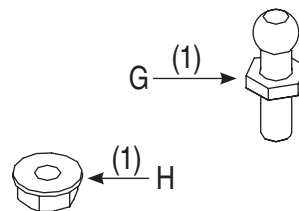
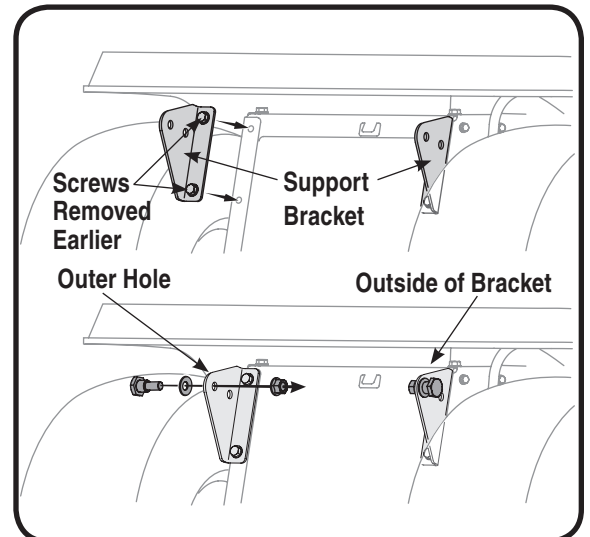
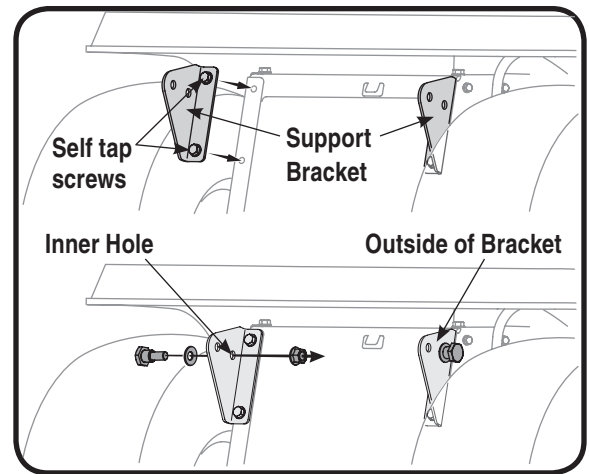

Figure 4
Figure 8
Figure 13
2. Place the right hand grass catcher support bracket (F1 from Figure 4), in position, with the wide end on top and the narrow end pointing down as shown in Figure 8.
3. Secure the support bracket to the tractor frame with two self-tapping screws earlier removed. Refer to Figure 8. Repeat on the other side using part F2 from Figure 4.
4. Insert a shoulder bolt (C in Figure 4) through a bell washer, (B in Figure 4) and insert the bolt from the outside of the bracket through the outer hole on the support bracket. Secure with a nut (A in Figure 4). See Figure 8 for details. Repeat on other side.
NOTE: For some tractor models, this clevis pin is too large. Use a smaller clevis pin (E in Figure 4) in its place with the same hairpin clip.
1. Locate the four self-tapping screws supplied in your hardware pack (D from Figure 4). Attach the right hand grass catcher support bracket (F1 from Figure 4) using two of the supplied screws in position as shown in Figure 13. Place the left hand grass catcher support bracket (F2 from Figure 4) in position and secure with the other two screws.
5. Insert a shoulder bolt (C in Figure 4) through a bell washer, (B in Figure 4) and insert the bolt through the Inner hole (closest to the frame) on the outside of the support bracket. Secure with a nut (A in Figure 4). See Figure 13 for details. Repeat on other side.